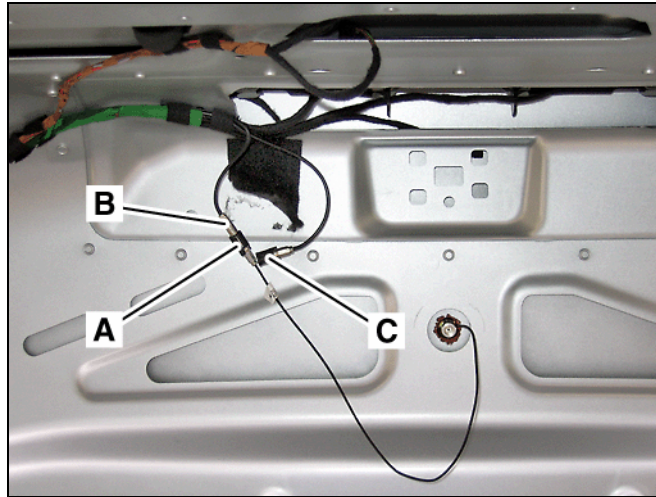

Figure 5
8. Connect the SDARS antenna lead (A, Figure 5) to the preinstalled antenna male lead (B, Figure 5).
**Note:** There is no use for the preinstalled antenna female lead (C, Figure 5) with the 2nd Generation antenna.